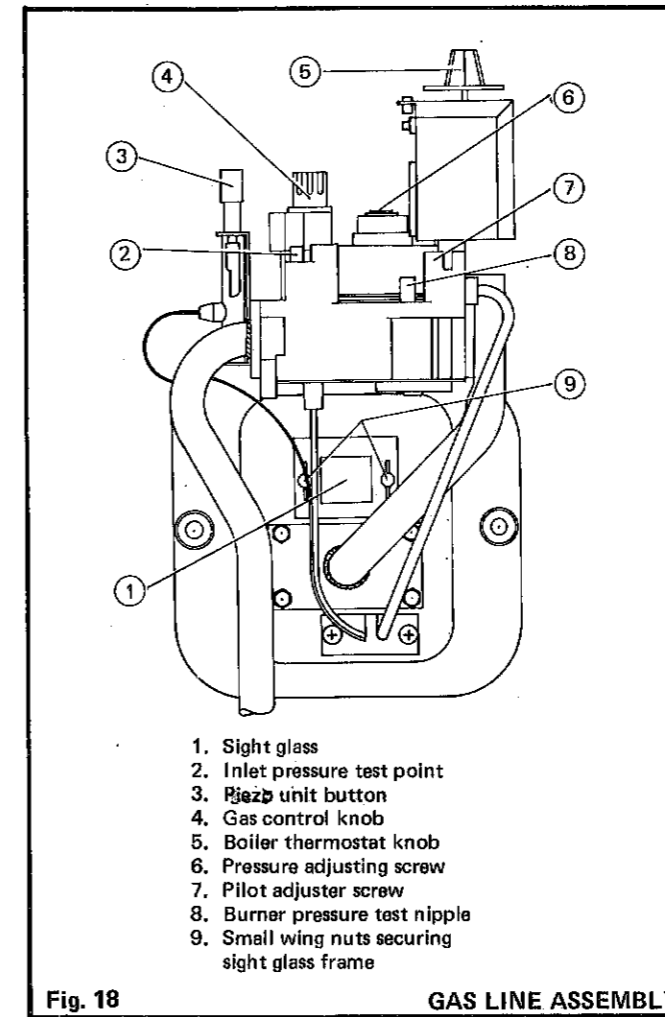

Fig. 18 GAS LINE ASSEMBLY
INITIAL LIGHTING INSTRUCTIONS (Refer Fig. 18)
- 3. Check the appearance of the pilot flame and, if necessary, make appropriate adjustment by use of the pilot adjuster screw, refer (7) Fig. 18 - 'Initial Lighting Instructions'.
2. The pilot flame covers 13mm (1/2in) of the thermocouple tip. Turn the adjuster screw (7) - Fig.18, anti-clockwise to increase the flame, and clockwise to decrease it.
Any required adjustments should be made by using the pressure adjustment screw (6) illustrated in Fig. 18. Replace the upper and lower front panels in reverse order to that under the heading 'PACKAGING'